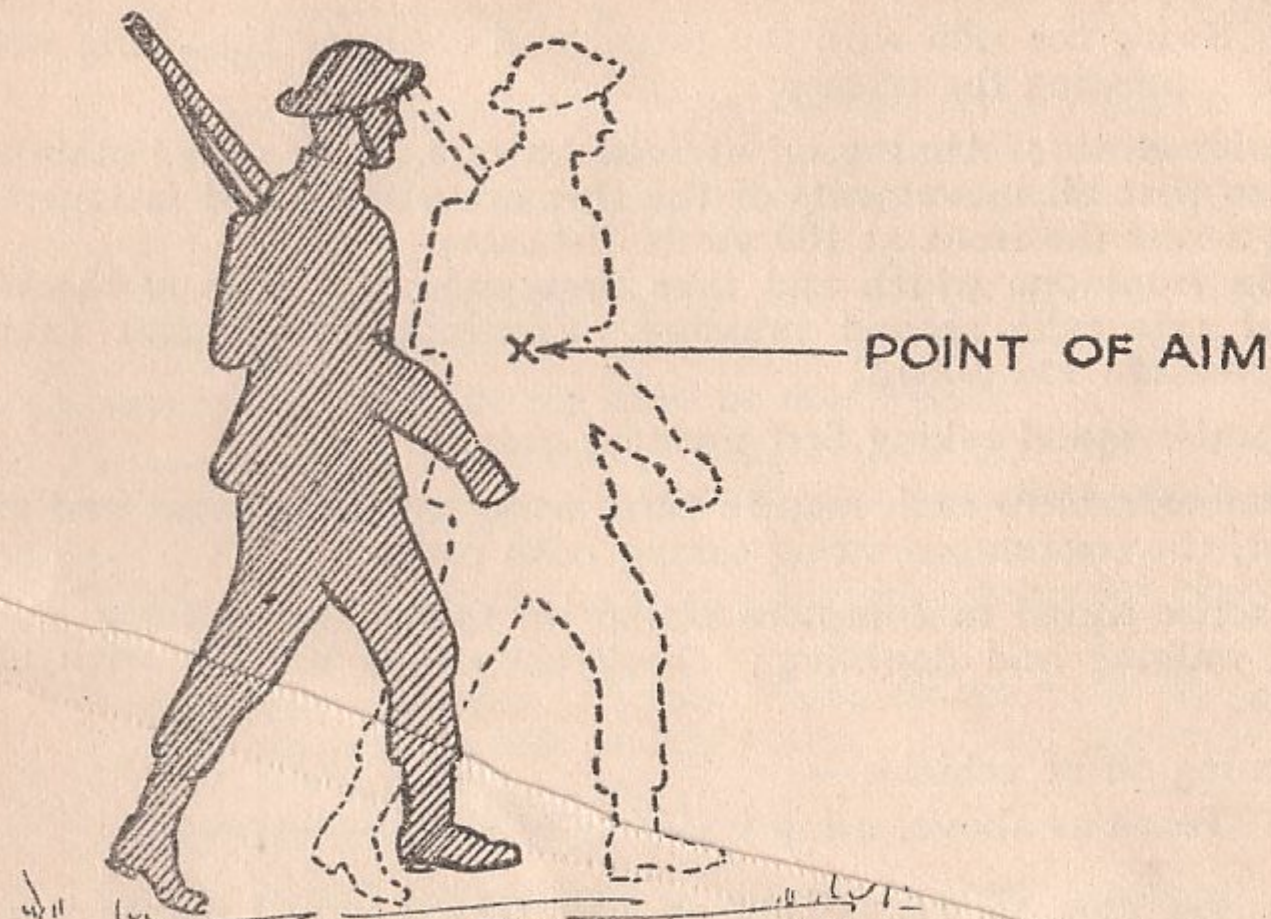

Fig. 10
*Note.*—See Figs. 10, 11, and 12 on page 28 for correct points of aim on certain types of targets.